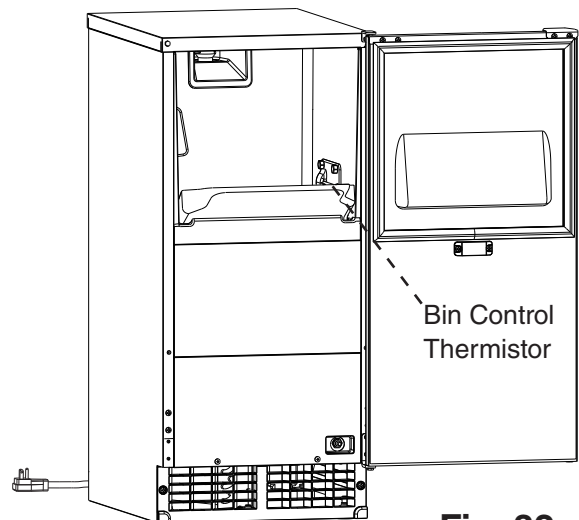

Fig. 32
- 7) At the end of the 30 min. run time, confirm bin control operation, by holding ice in contact with the bin control thermistor. See Fig. 32. The icemaker shuts down within 30 sec. Remove the ice. After 30 sec. the icemaker restarts the automatic icemaking process.